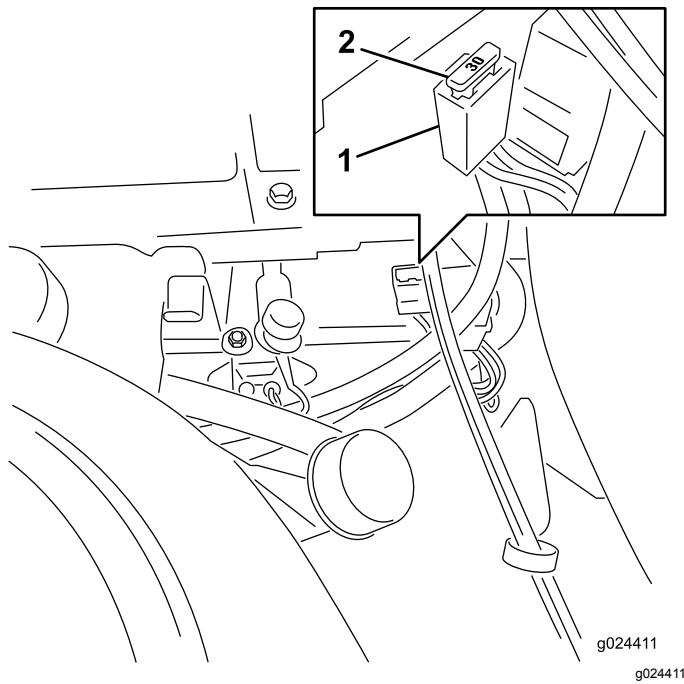

Figure 45
Note: The fuses are located on right hand console next to the seat (Figure 45).
1. To replace the main fuse, grasp the fuse and pull it straight and away from the fuse block (Figure 45).
4. Align a new fuse with the slot in the fuse block (Figure 45).
5. Push the fuse into the fuse block until the fuse is seated (Figure 45).